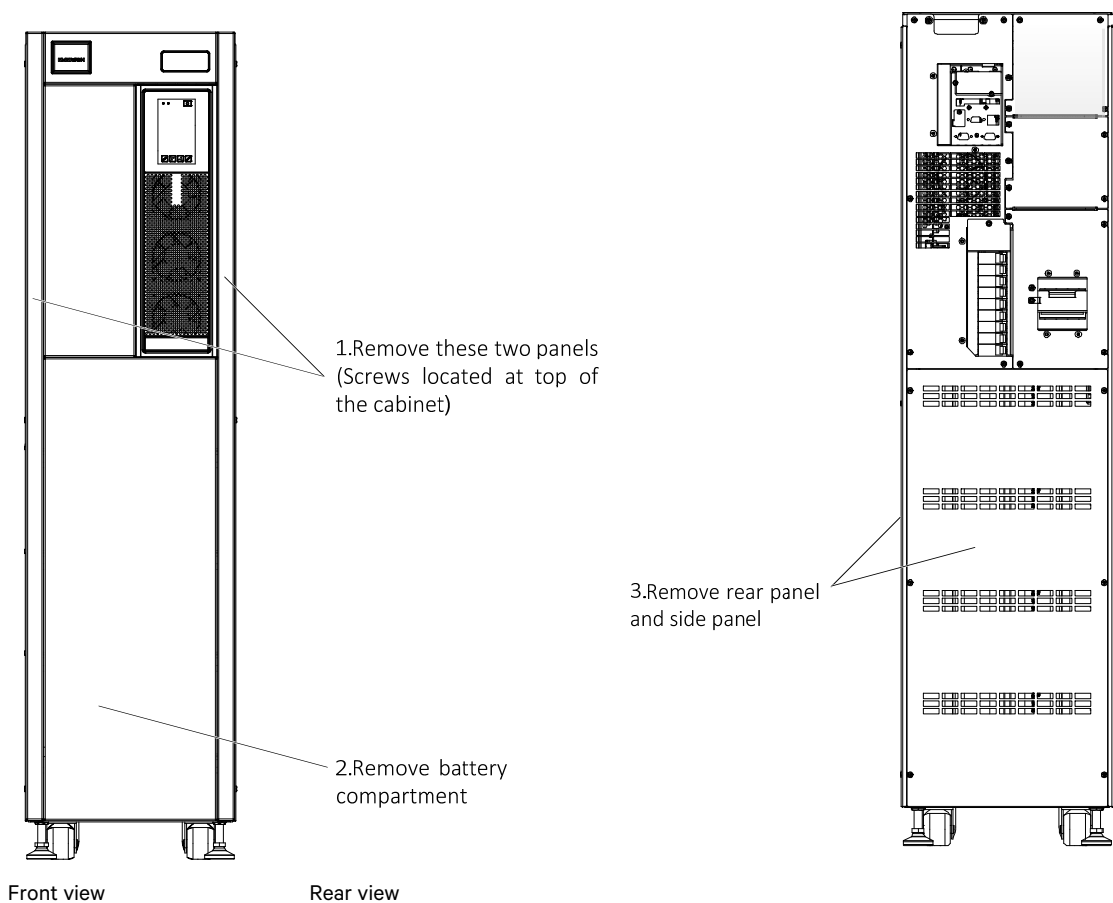

Figure 8-1 Removing the corresponding covers
- a) Remove the corresponding panels, as shown in Figure 8-1. Do not throw the screws away